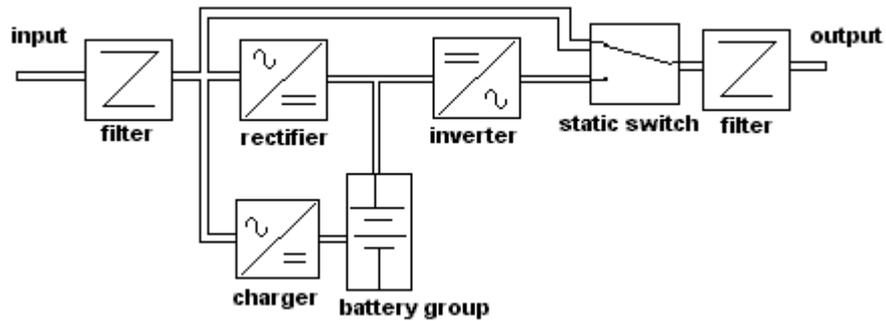

Fig 32 UPS system structure chart
(1) UPS system block diagram: showing as Fig32